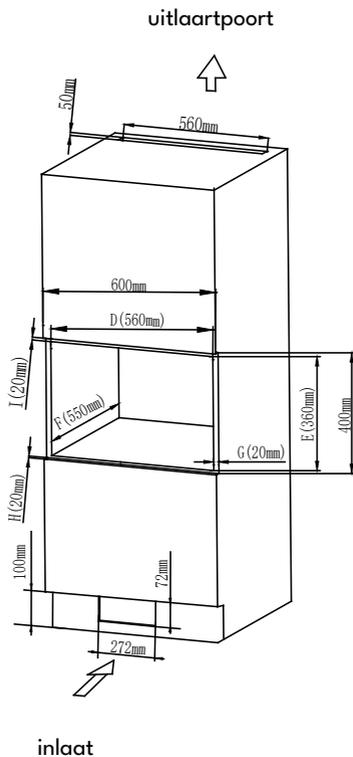

Fig. 5
Afmetingen van de opening: (D)  $560 \pm 2$  x (E)  $360 \pm 2$  x (F)  $550 \pm 2$  (mm) zoals weergegeven in Fig.5 "D", "E", "F".